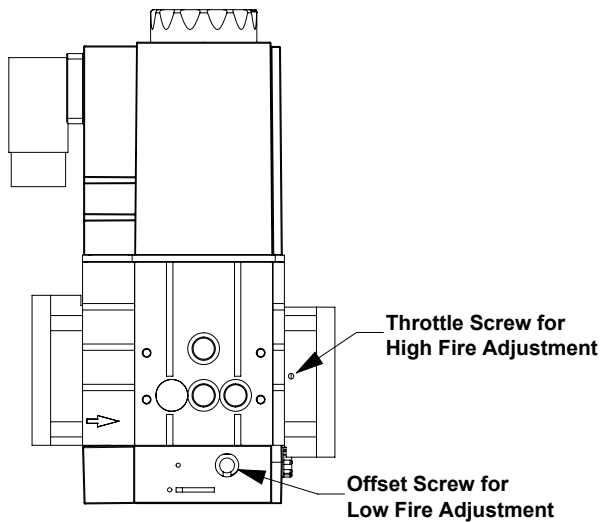

Figure 31: Gas Valve Air/Fuel Adjustment
- d. If high fire O₂ is too high (CO₂ is too low), decrease O₂ (increase CO₂) by turning the throttle screw towards the "Plus (+)" sign in 1/4 turn increments and checking the O₂ (or CO₂) after each adjustment. Refer to Figure 31 for location of throttle screw. Verify CO air free is less than 200 ppm.